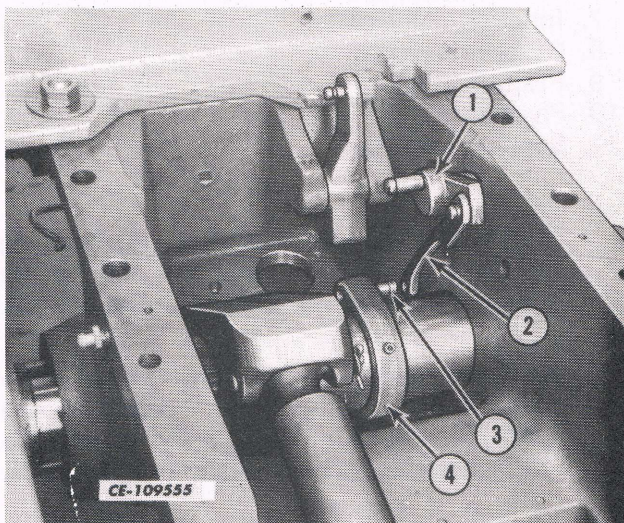

Fig. 23
j. Remove the snap rings securing the position control walking link to the position control eccentric assembly and rockshaft actuating hub assembly (4, Fig. 23).